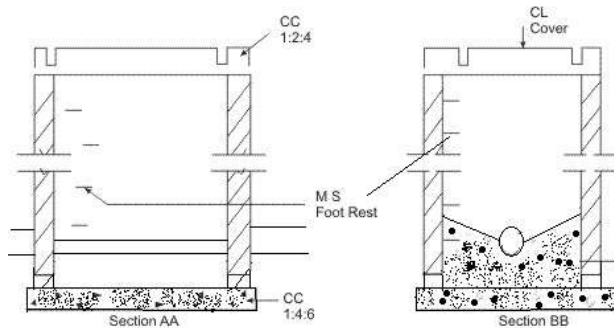

Figure 8.1 Shallow manhole
**Shallow Manholes:** These are 0.7 to 0.9 m depth, constructed at the start of the branch sewer or at a place not subjected to heavy traffic conditions (Figure 8.1). These are provided with light cover at top and called inspection chamber.